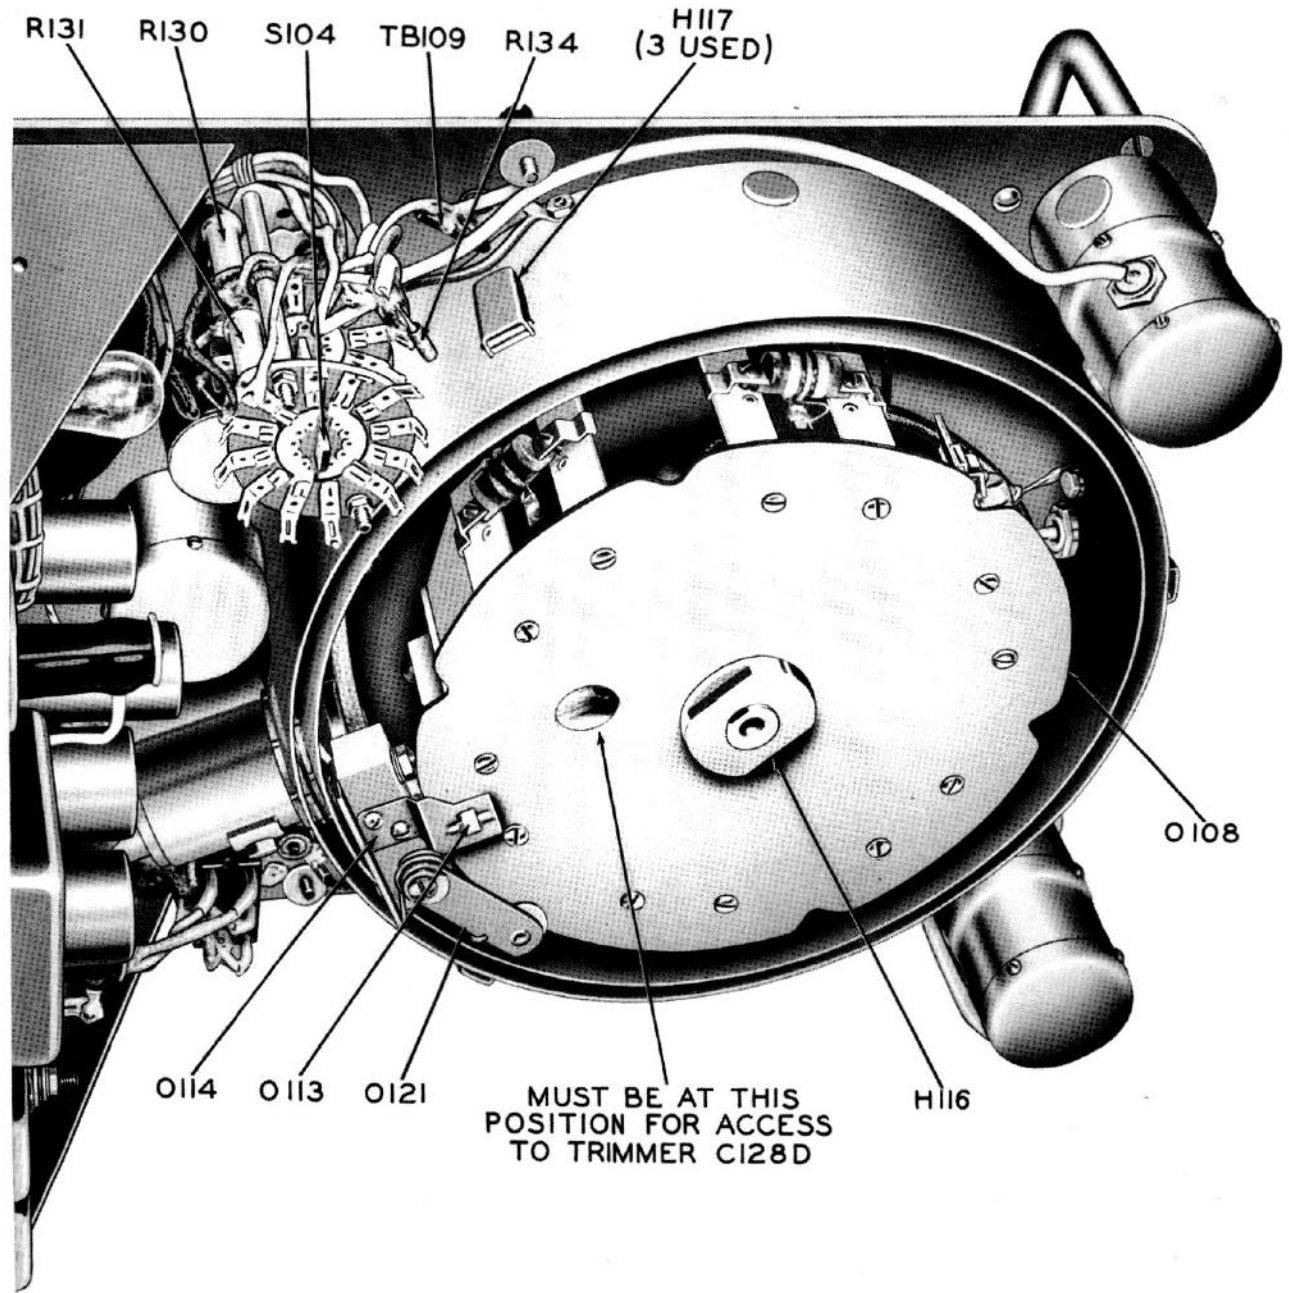
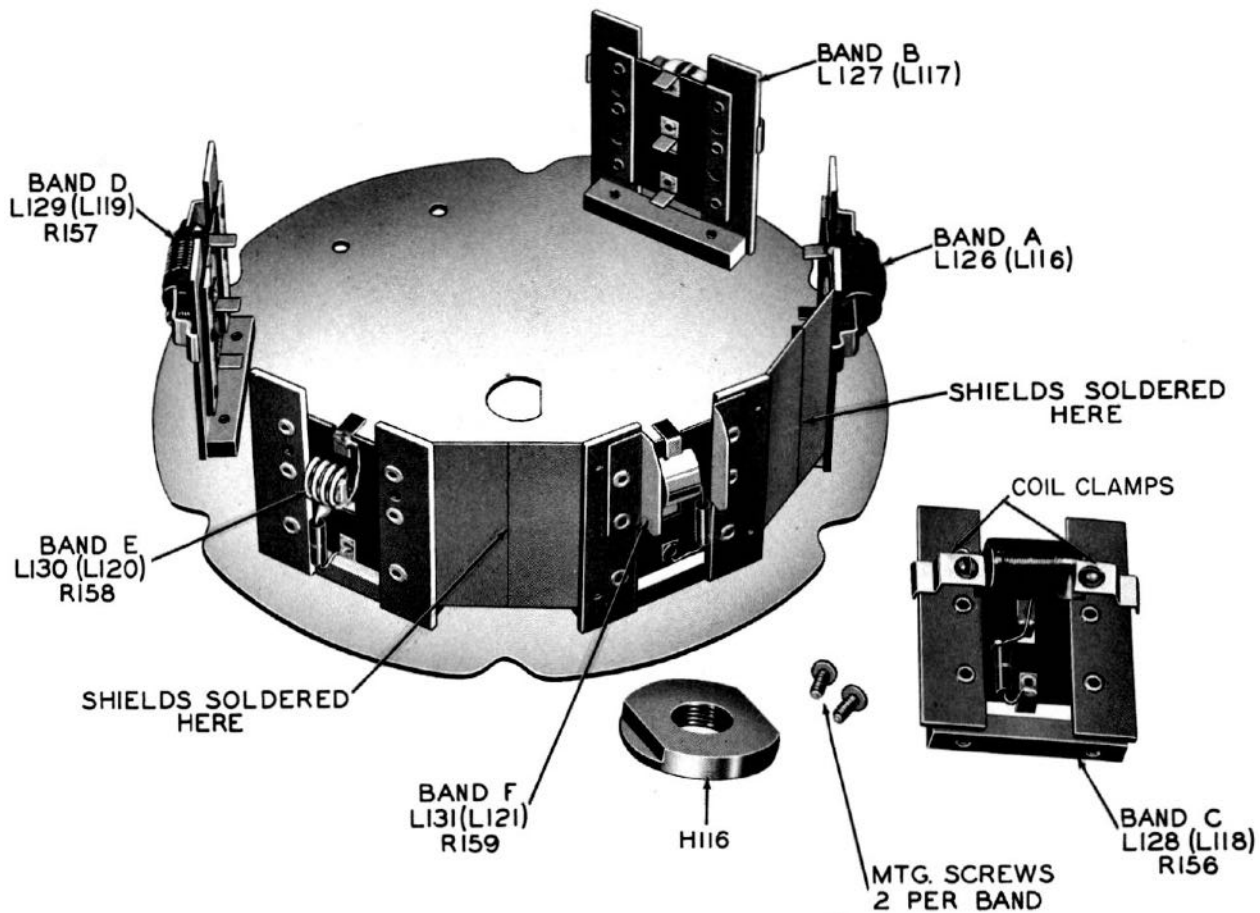

Figure 7-10. RF Signal Generator SG-45A/URM-26, Oscillator Compartment, Interior
Figure 7-11. RF Signal Generator SG-45A/URM-26, Coil Disc Assembly
(1) Remove instrument from case (see paragraph 7-1e).
(2) Unfasten three spring latches that hold outer oscillator shield in place, then remove both outer and inner shields.
(3) Check each 10-megacycle calibration point between 200 and 400 megacycles, as previously described in paragraph *b* above, to determine the direction of the frequency error (above or below the scale calibration).
(4) When the zero beat corresponding to the 400-megacycle calibration is obtained, note relative position of index line and calibration. If the frequency reading is high, circuit capacitance must be reduced and vice versa.
(5) Access to a small trimmer capacitor, C-128D, is provided by the small hole in the coil disc, when "F" band is connected, see figure 7-10. Insert a 1/4 inch socket wrench and adjust trimmer capacitor to zero beat while slowly rotating tuning dial until 400-megacycle calibration is correct. Clockwise rotation of trimmer increases capacitance.
(2) Unfasten three latches that hold outer shield and remove both outer and inner shield covers (see figure 7-10).
(3) Remove two screws holding Spring O-114 and Roller O-113. Be careful not to lose roller as roller shaft is not attached permanently to the Spring.
(4) Turn coil mounting disc to position midway between detents and, while holding disc firmly in this position, remove the one-inch nut H-116 which holds disc. Push detent away and lift coil mounting disc straight out.
(5) Remove two screws holding the oscillator sub-assembly to be removed (see figure 7-11). If sub-assembly for band A, band E, or band F is to be removed, it is also necessary to unsolder the shield where it is attached to the neighboring sub-assembly.
COILS FOR RANGES A THROUGH D ARE HELD IN POSITION BY CLAMPS AT EACH END OF COIL FORM (SEE FIGURE 7-11). CARE MUST BE TAKEN NOT TO LOOSEN THESE CLAMPS WHEN MAKING REPAIRS AS THE POSITION OF THE COIL RELATIVE TO PICK-UP LOOPS L-114 AND L-115 WILL BE CHANGED AND ITS CALIBRATION DESTROYED.
(a) OUTPUT VOLTAGE LESS THAN .05 VOLT: Loosen screws holding coil-form clamp (figure 7-11), then move coil slightly towards front panel.
(d) OUTPUT VOLTAGE MORE THAN .05 VOLT: Loosen screws holding coil-form clamps (figure 7-11) then move coil slightly towards coil disc.
(2) Unfasten three spring latches that hold outer shield and remove both outer and inner shields.
(3) Remove coil mounting disc (see figure 7-10 and paragraphs 7-8a(4), 7-8a(5), and 7-8a(6)).
(4) Remove plug buttons adjacent to each end coil and unsolder coil connection at each end.
(5) Remove the three mounting screws.
(6) The three coils may now be removed and the defective coil replaced. Keep lead lengths same as in original assembly.
(7) Replace the coils as in their original position.
(8) Solder free leads of first and last coils and replace plug buttons.
(9) Remount coil mounting disc, replace oscillator shield covers, and restore instrument to case.